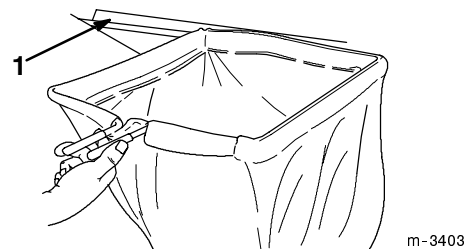

Figure 9
1. Slide the grass bag under the bag cover and position the front edge of the bag rod into the support bracket (Fig. 9).
5. Slide the grass bag under the bag cover and position the front edge of the bag rod into the screen support bracket on the bag frame (Fig. 9).